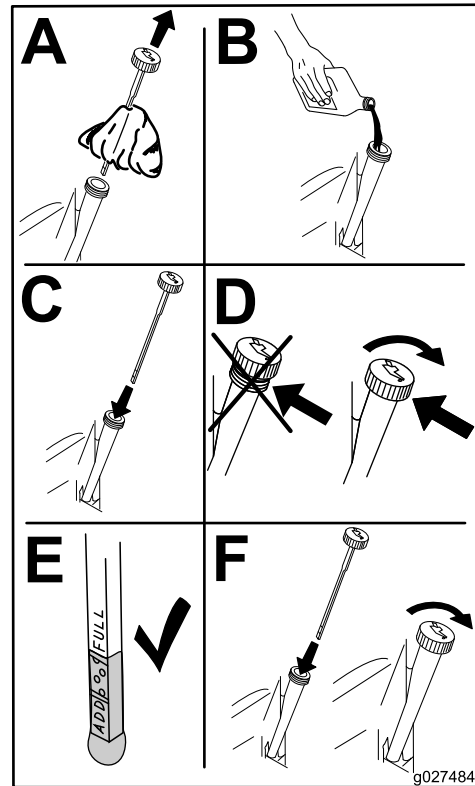

Figure 29
5. Check the oil level; refer to Figure 29.
4. Slowly pour approximately 80% of the specified amount of oil into the fill hole (Figure 29).